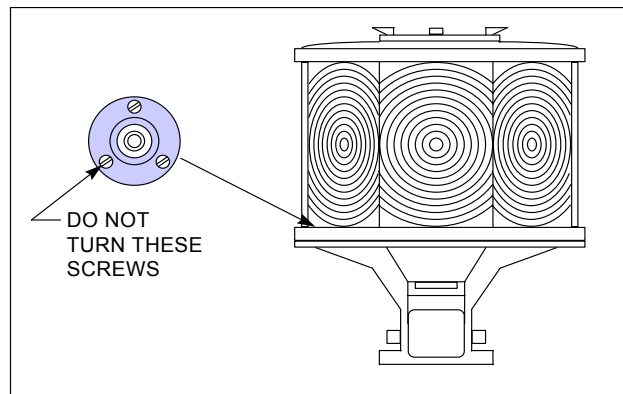

Figure 3-21
- e. Adjust the leveling nuts up or down until the bubble is centered in the circle on the level, as shown in Figure 3-21.
- (1) Unscrew the 4 capscrews, which secure the terminal plate to the beacon base and tilt the terminal plate down.